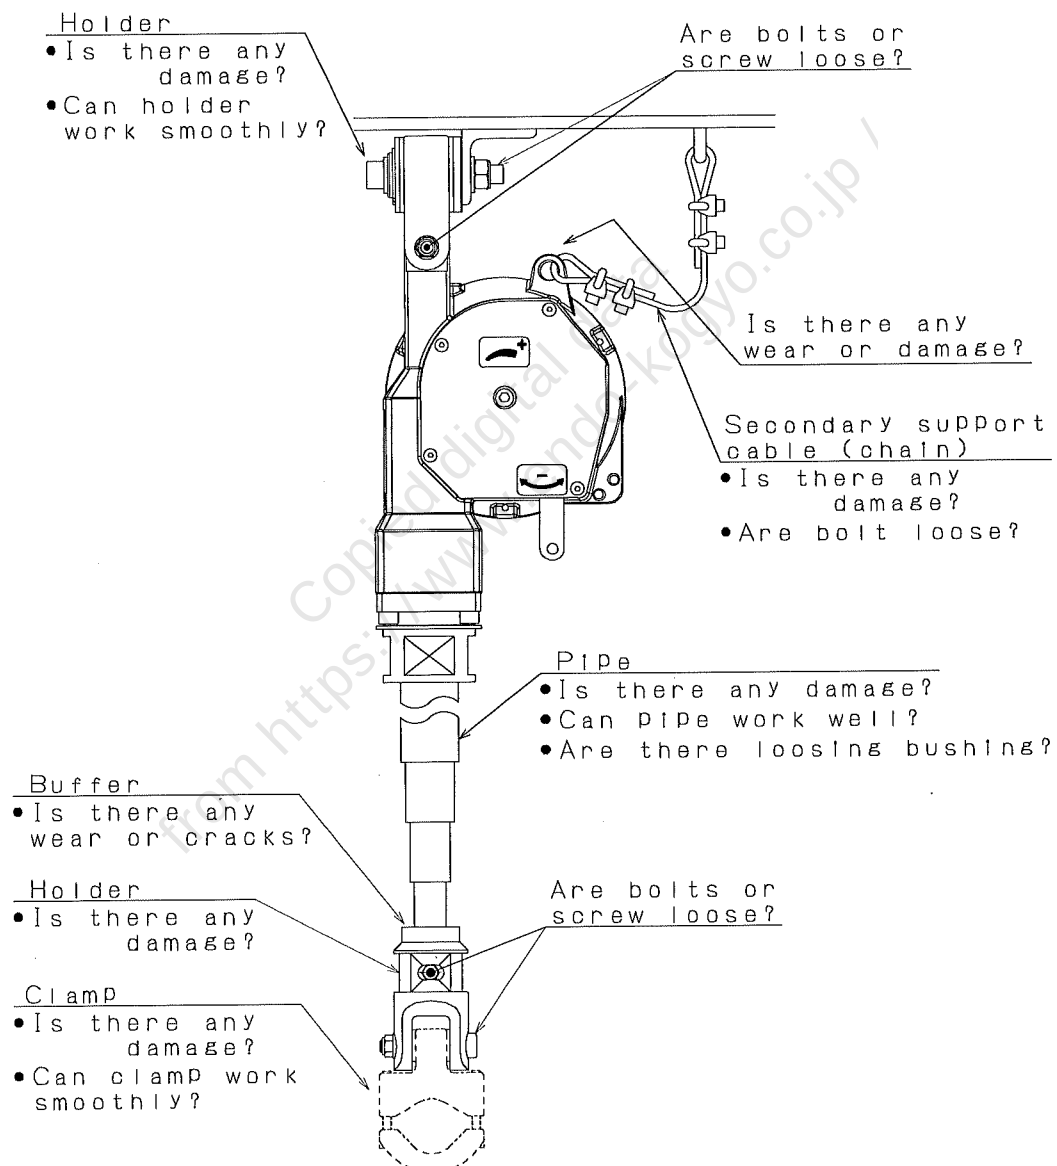

Fig.3
- Inspect the balancer at least once a month. Correct and repair any problems which are detected. Make the inspection interval shorter when operating frequently or under hostile environments. (See Fig. 3)